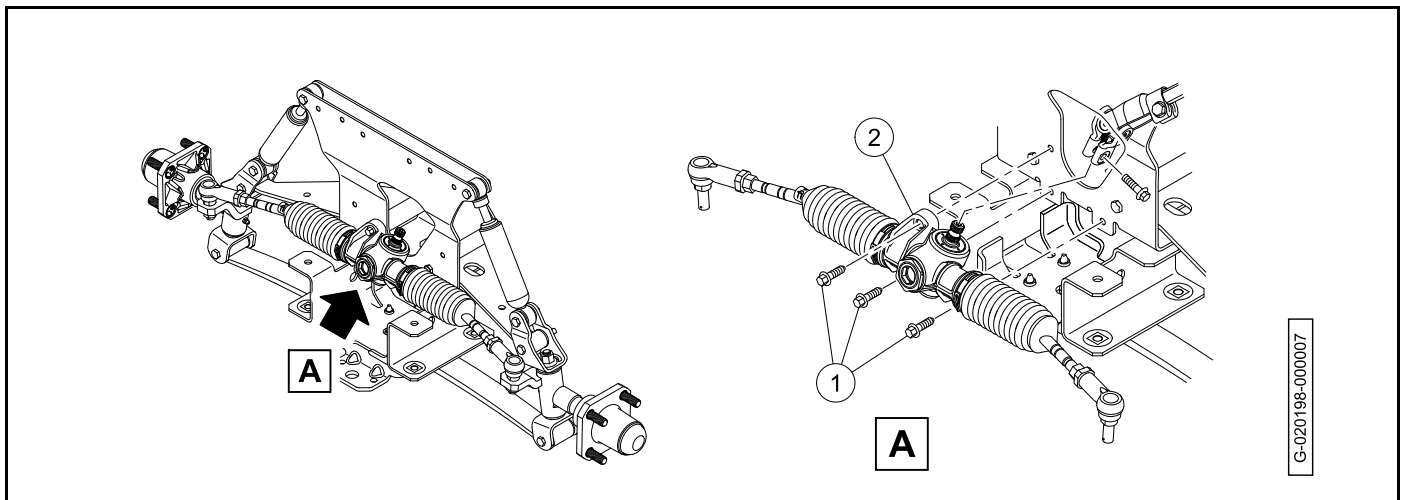

Figure 7-20
4. Remove the bolts (1) (Figure 7-20).